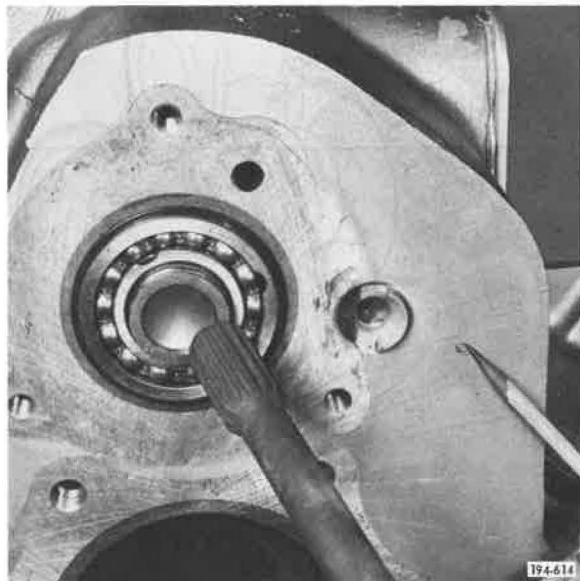

Figure 61. Rear Countershaft for P.T.O.
5. Note location of any hollow rear countershafts for rear mounted P.T.O., so that unit can be reassembled with shafts in same position. If factory installed, the letter "O" will be stamped on the case next to each such shaft, as shown in Figure 61. If field installed, the same mark should be stamped into the case by the mechanic. Note in Figure 61 the pencil pointing to the "O", and the P.T.O. quill shaft being removed from the hollow shaft.